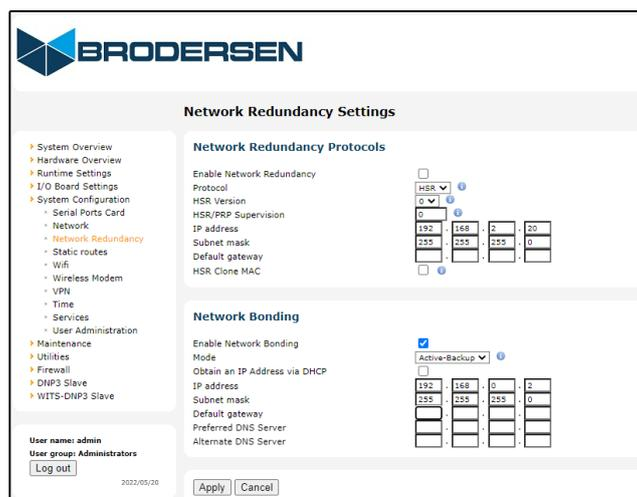

Figure 1
- 8- Open network tab on "System Configuration\Network". See Figure 1.
13- Set the communication IP address in System “Configuration\Network Redundancy\Network Bonding” and select Enable Network Bonding on Active-Backup mode. See Figure 1.